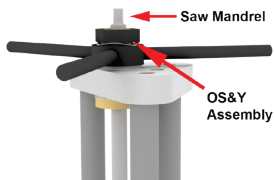

Figure 33
3.7.3) Tighten the clamp lever in the packing nut when the cutter and pilot drill are completely inside of the installation housing. The hexagon end of the saw mandrel should be at or near the OS&Y Assembly (see Figure 33).